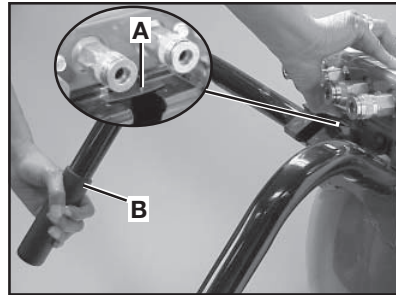

Fig. 9
9. While lifting tab (A) rotate handle (B) into storage position. See Figure 9.